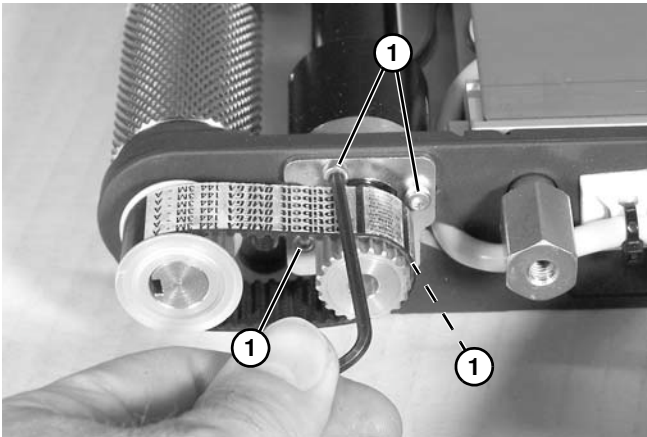

Figure 93
4. Loosen four clamp plate screws (Figure 93, item 1).